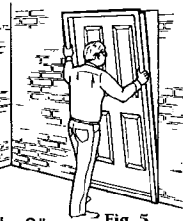

Fig. 5
5. From the outside, tilt the entire prehung door unit into the center of the opening (Fig. 5). Make sure the sill is in contact with the caulking and that the hinge jamb is level. Temporarily fasten the jamb in place with two set nails. Place one nail or screw centered in the jamb